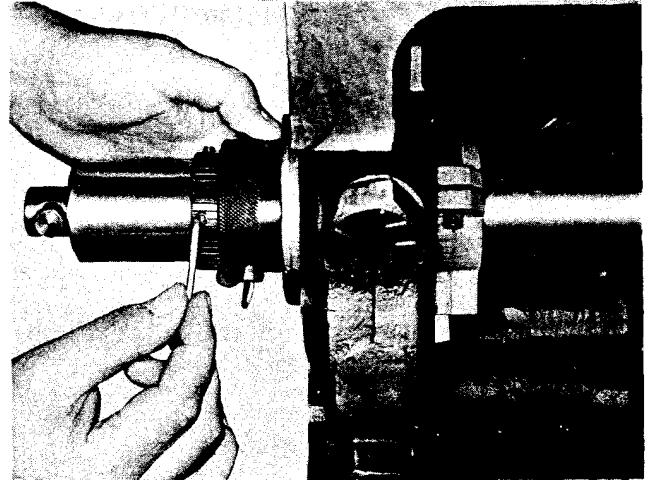

Fig. 1-24, (N101121). Setting depth set collar
7. Set depth set collar so cutting tool is making light contact with surface to be cut and tighten setscrews securely. Fig. 1-24.